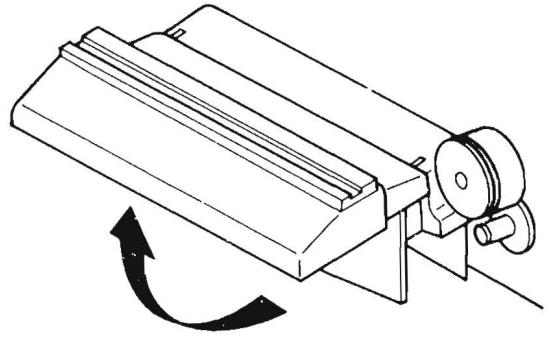
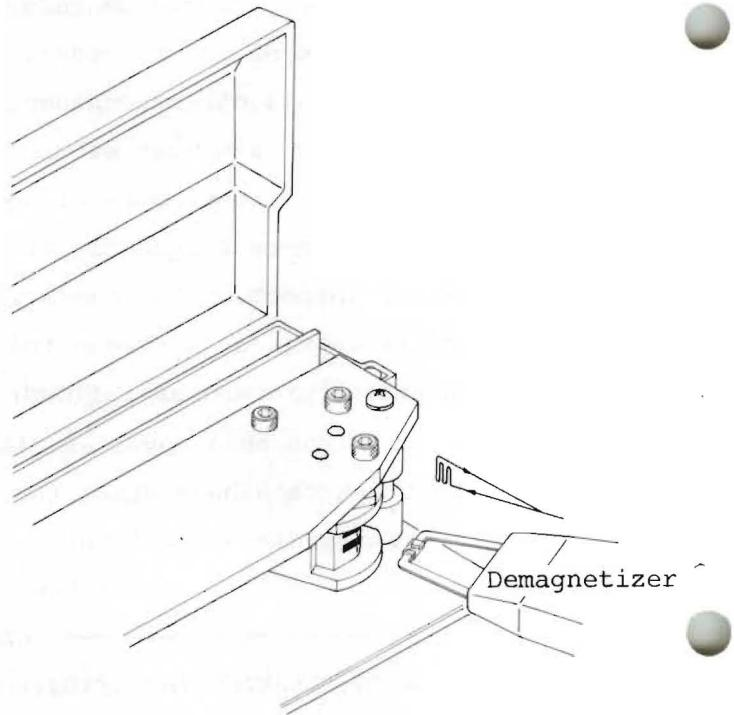

Fig. 4-1 Lifting the Head Cover
Fig. 4-2 Demagnetizing
- (1) Lift the head cover as illustrated in Fig. 4-1.
- (2) Clean each head stack thoroughly with a cottontipped applicator damped with head cleaner.
- (1) Turn the unit's power off and remove any recorded tape near the transport. The tape could be partially erased by the demagnetizer.
- (2) Lift the head cover as illustrated in Fig. 4-1.
- (3) Cover the demagnetizer tips with adhesive tape to prevent scratching the head stacks.
- (4) With the demagnetizer held away from the transport, connect the demagnetizer to a power source.
- (5) Move the demagnetizer tips slowly close to the head, lightly touch the face of one head stack and slowly move the tips up and down the stack several times. Then slowly withdraw the demagnetizer as shown in Fig. 4-2.
- (6) Repeat step five for each head stack.
- (7) Repeat the procedure in step five for each guide and other metallic parts in the tape path.
- (8) Move the demagnetizer slowly away from the transport for at least three feet, and then disconnect the power from the demagnetizer.